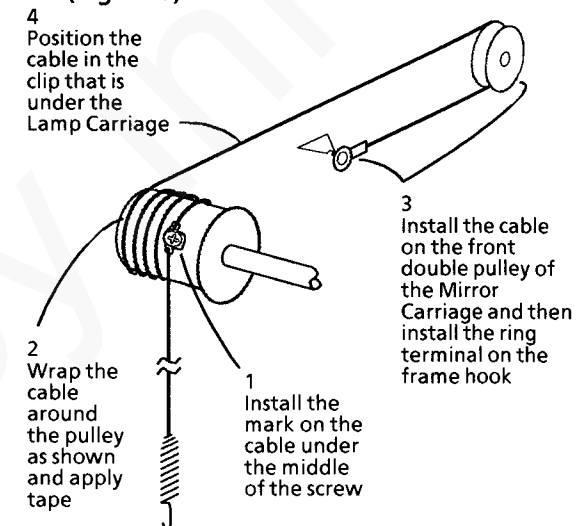

Figure 3. Installing the Front Scan Cable on the Front Drive Pulley
4. Install the cable on the Front Drive Pulley (Figure 3).